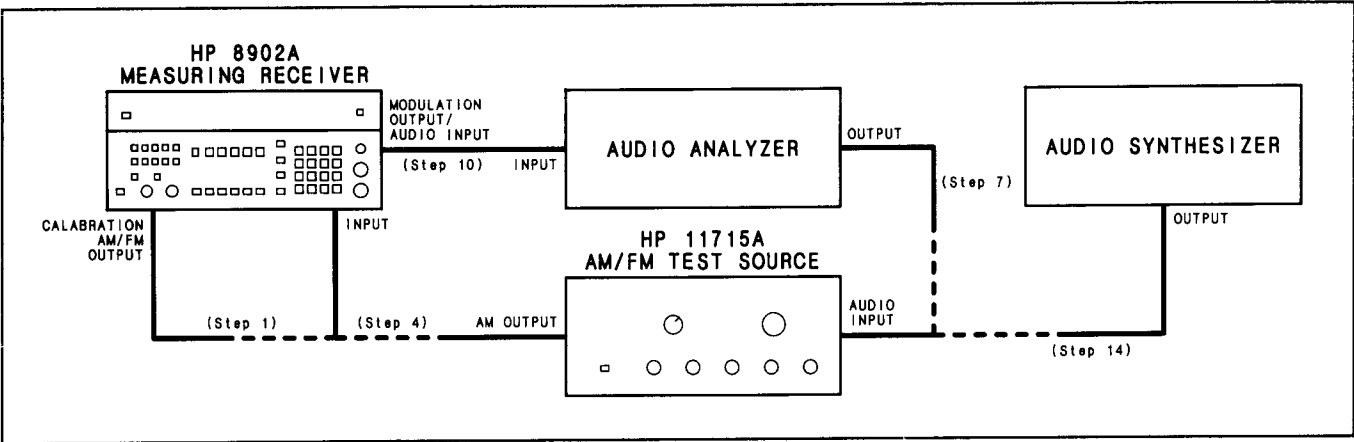

Figure 4-1. AM Performance Test Setup
4. On the AM/FM test source, set the test mode switch to AM. Connect the test source AM output to the Measuring Receiver's INPUT. (See Figure 4-1. Nothing should be connected to the test source's audio input.)
7. Set the audio analyzer's oscillator to 20 kHz. Connect its output to the audio input of the AM/FM test source. (See Figure 4-1.)
10. Connect the audio analyzer's input to the Measuring Receiver's MODULATION OUTPUT/AUDIO INPUT. (See Figure 4-1.) Set the audio analyzer to measure the distortion on the 20 kHz signal at the MODULATION OUTPUT/AUDIO INPUT with 80 kHz of low-pass filtering (on the audio analyzer). The distortion should be 0.3% or less (–50 dB or less).
14. Set the audio synthesizer to 1 kHz at +1 dBm. Connect its output to the audio input of the AM/FM test source. (See Figure 4-1.) Fine adjust the audio synthesizer level for a Measuring Receiver display of 80% AM.